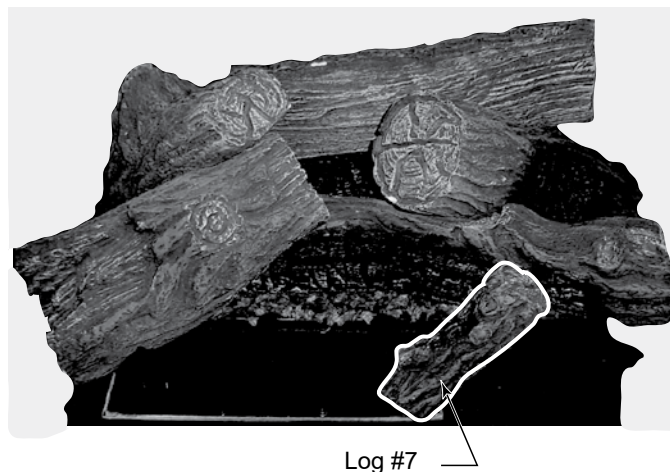

Figure 6.10 - Installing Rock Wool
8. Place log #7 between the second and third right tong on the grate as shown in Figure 6.10.